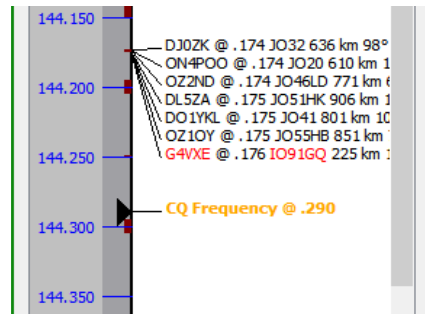

Figure 140 – Run frequency marker
- If operating in Run mode, the current Run frequency is marked on the display¹³⁷ as ‘**CQ Frequency**’, with the fractional frequency appended (see Figure 140); the marker changes colour if the rig moves off the run frequency.